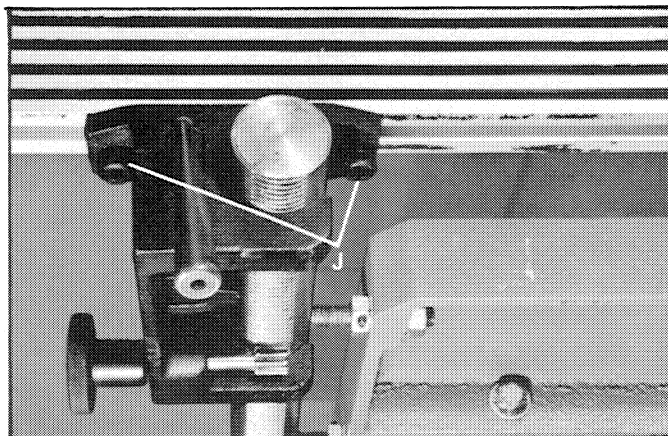

Fig. 20
7. Align the fence with the miter gage slot and tighten two screws (J) Fig. 20.